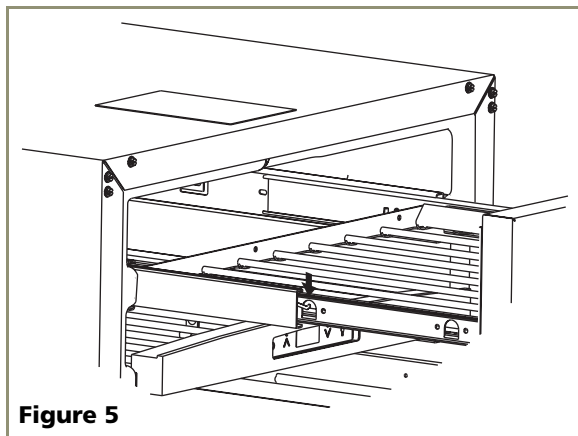

Figure 5
3. Press the left rack release lever (see **Figure 5**) down, and at the same time, lift the corresponding right rack release lever up, and pull the rack out until it is free of the tracks and the cabinet.